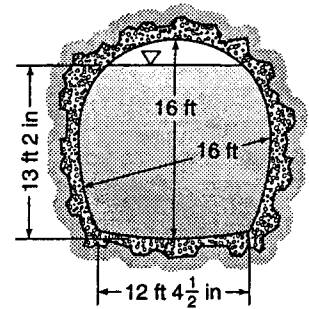

Figure X10.3.5
10.3.5 Figure X10.3.5 shows a tunnel section on the Colorado River Aqueduct. The area of the water cross section is  $191 \text{ ft}^2$ , and the wetted perimeter is  $39.1 \text{ ft}$ . The flow is  $1600 \text{ cfs}$ . If  $n = 0.013$  for its concrete lining, find the slope.